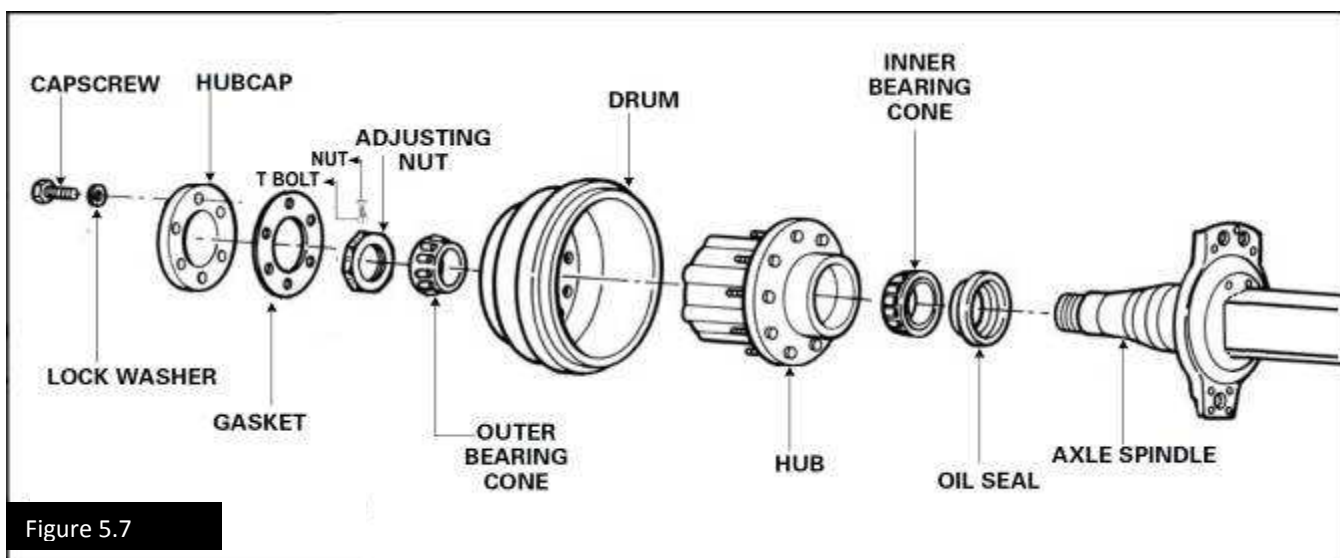

Figure 5.7
9. Remove the outer bearing cone, then the hub and drum assembly from the axle spindle. Support the hub and drum assembly during the entire removal process, as failure to do so may result in damage to the axle spindle threads. Figure 5.7